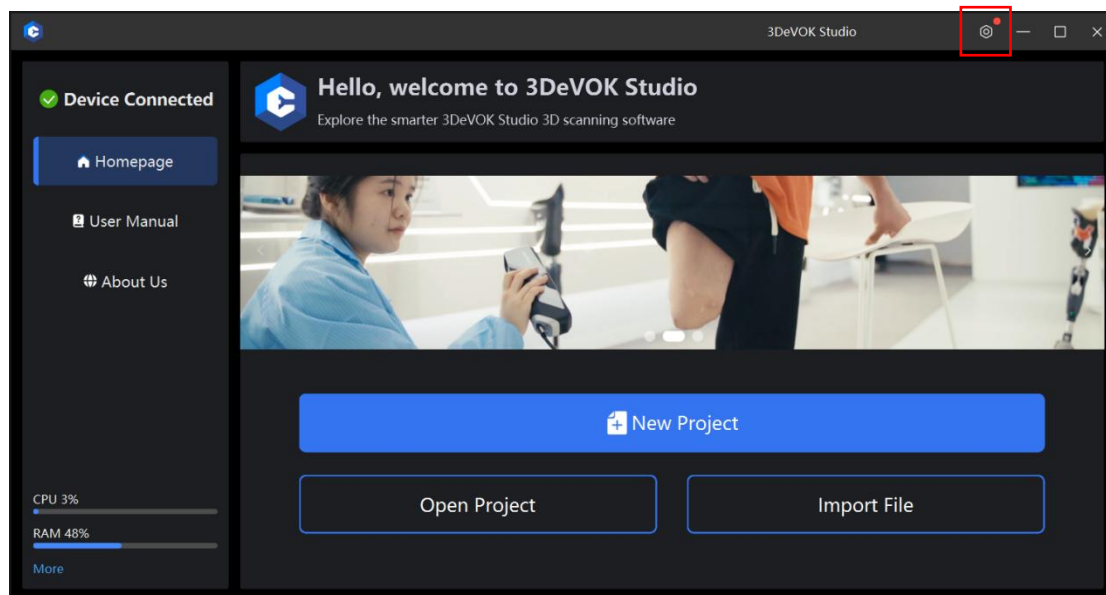

Figure 5-1 Homepage
1. Double-click to open the 3DeVOK Studio software and enter the home page. Click the  icon in the upper right corner to access the configuration, as shown in Figure 5-1.